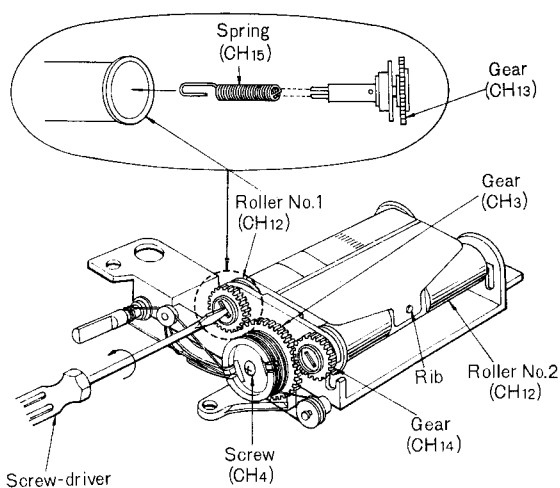

Fig. 3
1. Insert the gear (the gear not attached to the shaft) and the spring into roller no. 1, as shown in fig. 3.
2. Fully wrap the dial scale around roller no. 1, as shown in fig. 3.
3. Insert the dial scale into rib of roller no. 2, as shown in fig. 3.
4. Loosen the dial drum screw, as shown in fig. 3.
5. Using a screw-driver, as shown in fig. 3, slightly move the gear of roller no. 1 so that the gear disengages from the center gear, turn three times in the direction of the arrow (being sure to secure roller no. 1 so as to prevent it from also turning), and then engage the gear with the center gear once again.
8. Tighten the dial drum screws, as shown in fig. 3.
3. Loosen the dial drum screw, as shown in fig. 3.
9. Tighten the dial drum screw, as shown in fig. 3.